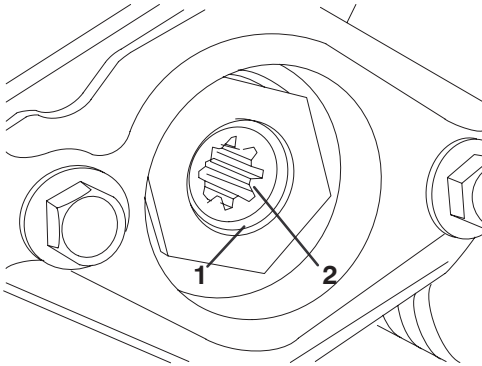

Figure 15
3. Allen head screw (2)
- D. Remove the snap ring securing the drive coupler in the reel tube (Fig. 15). Remove the drive coupler.